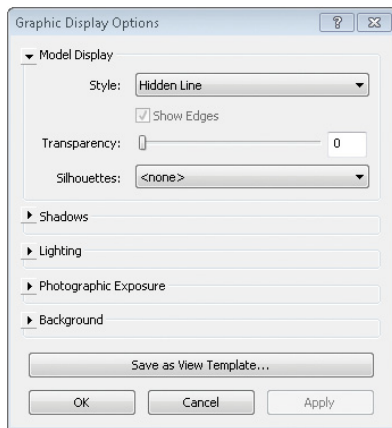

FIGURE 9.8 Graphic Display Options
1. Open the GDO dialog from the Properties palette by clicking the Edit button next to the Graphic Display Options parameter. This brings up the GDO dialog. Notice that the different options are collapsed by default (Figure 9.8).